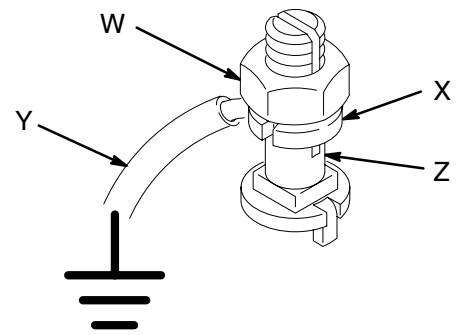

Fig. 2
*Bulldog Pumps:* use a ground wire and clamp. See Fig. 2. Loosen the grounding lug locknut (W) and washer (X). Insert one end of a 1.5 mm2 (12 ga) minimum ground wire (Y) into the slot in lug (Z) and tighten the locknut securely. Connect the other end of the wire to a true earth ground. Order Part No. 237569 Ground Wire and Clamp.